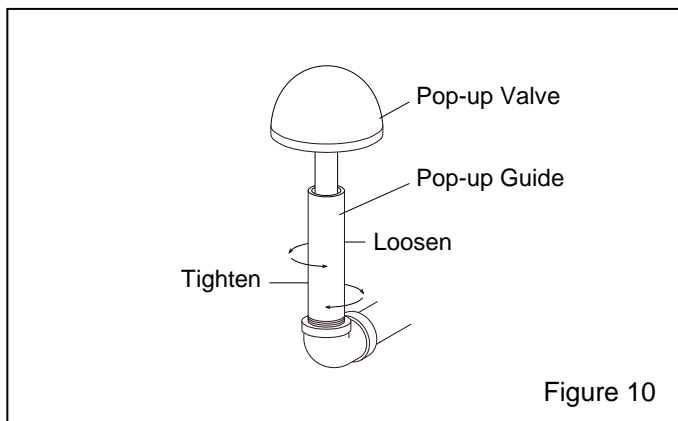

Figure 10
**6.4 Pop-up Valve Replacement, Figure 10**